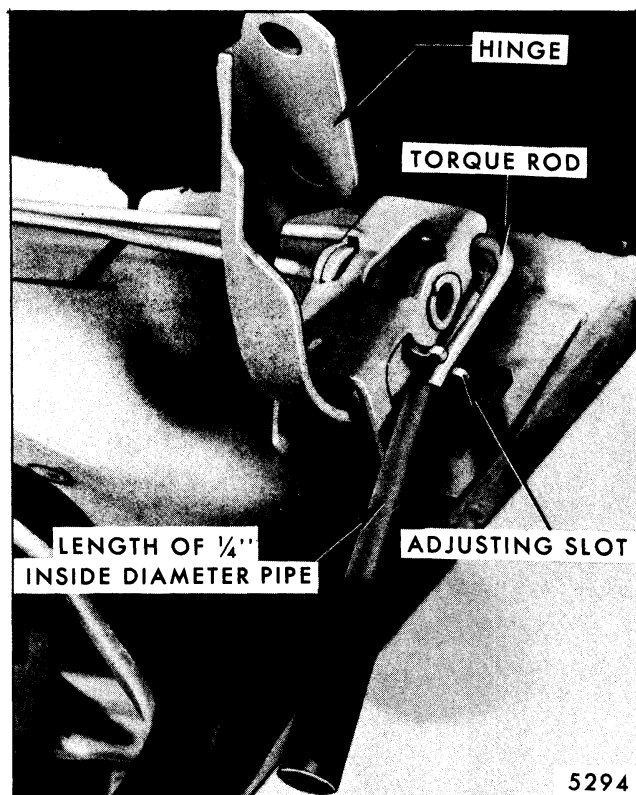

Fig. 7-24-Rear Compartment Torque Rod Adjustment - "F" Styles
- e. On "F" styles, use a length of 1/4" inside diameter heavy wall pipe (Fig. 7-24).